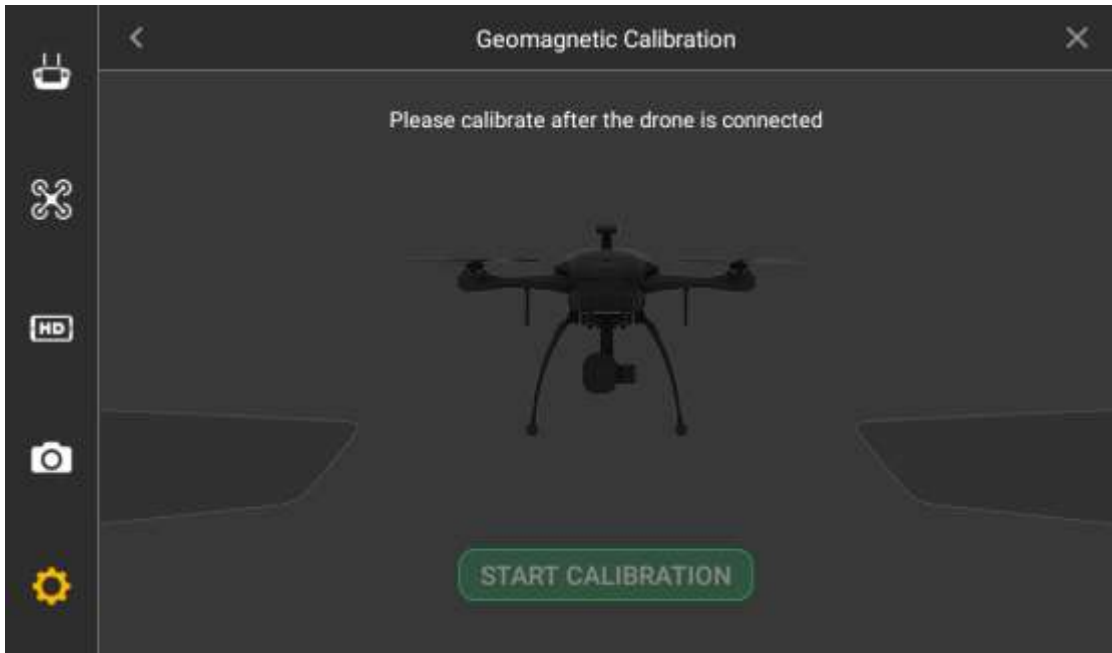

Figure 3-31
Step 1 Select "Settings > General > Other > Geomagnetic Calibration" on the remote control and enter the interface of geomagnetic calibration, as shown in Figure 3-31.